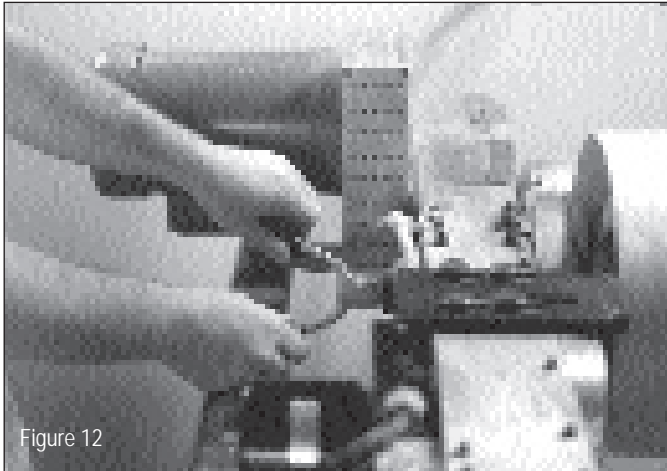

Figure 12
22. Tighten the mandrel knob to expand the mandrels. (See Fig. 12.) Lift slightly to align the mandrels. The